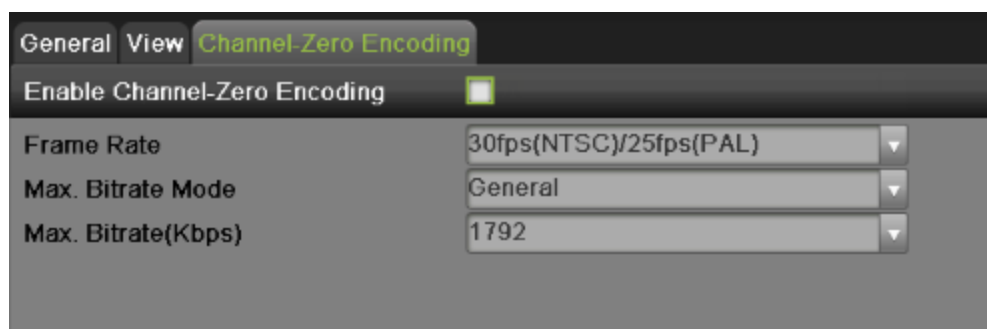

Figure 34 Channel-Zero Encoding Menu
2. Select the Channel-Zero Encoding tab, as shown in Figure 34.